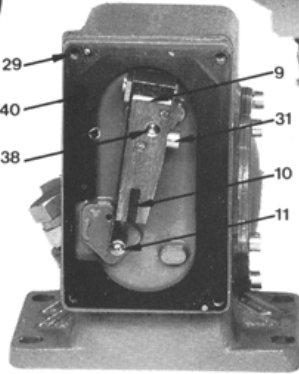

Fig. 5
The large welt on the membrane should then fit in the groove in the housing. Check this when fitting the membrane support. Now replace the cover, noting that it is guided by the membrane support and that the screwholes in the cover are asymmetric to ensure the correct positions of the support and the cover. After fitting the membrane, check the zero position and the contact change-over. The actuator (9) is to be secured to the shaft so that the spring is pretensioned 0.5 mm, measured at the support roller (11). *Refer to Fig. 5.*
Replacing the sealing hose *Refer to Figs. 5 and 9.*
Fit actuator (9) and secure it to the shaft (38), *Figs. 5 and 9.* Push the centre (38) inwards when fitting so that the membrane (21) rests with the welt in the groove of the housing without being stretched. At the same time, the leaf spring (9) is to